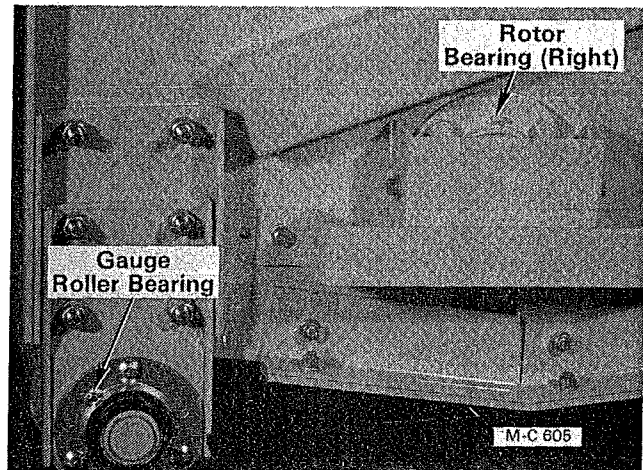

Figure 13 - Gauge Roller - Below S/N 49650
1. Rotor bearings (2). One fitting on each end of the rotor, see Figure 13 and 14.
2. Gauge roller bearings (2)-below S/N 49650. One fitting on each end of the gauge roller, see Figure 13.